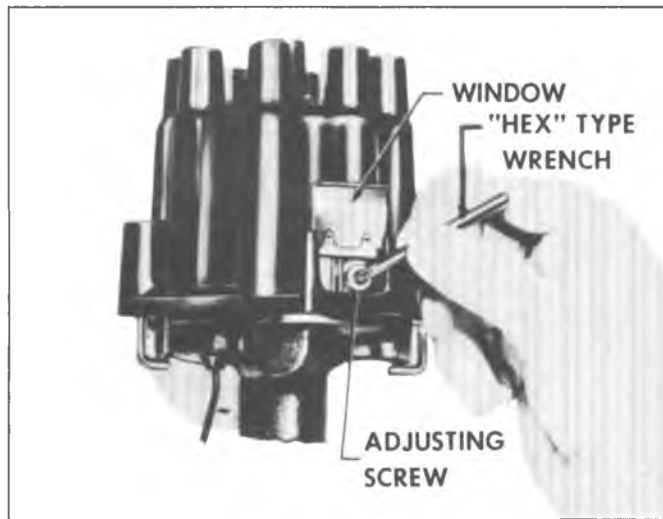

Fig. 18i—Adjusting Dwell Angle
temperatures normalized, the dwell is adjusted by first raising the window provided in the cap and inserting a "HEX" type wrench into the adjusting screw head. (fig. 18i).
- b. Turn the adjusting screw (fig. 18i) to set the dwell angle to 30 degrees.
- c. Turn the adjusting screw clockwise (fig. 18i) until the lamp lights, then give the wrench  $1/2$  turn in the opposite direction (counter-clockwise) to obtain the proper dwell angle.